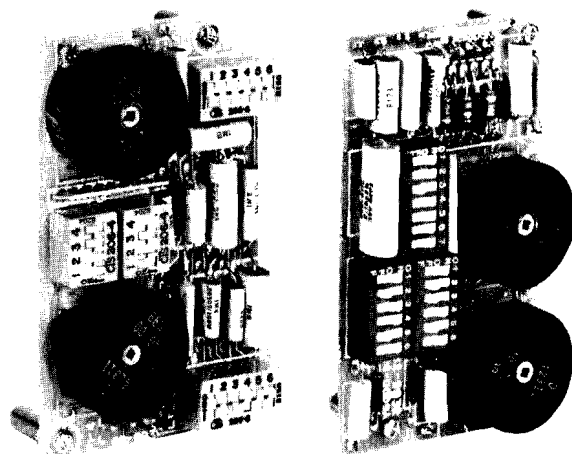

figure 1. 9930 and 9932 Precision Balance Network subassemblies
1.01 Tellabs' 9930 and 9932 Precision Balance Network (PBN) plug-on subassemblies (figure 1) approximate the impedances of specific transmission facilities and equipment to provide precision balancing (i.e., improvement of the transhybrid loss when unacceptably low) of terminating sets connected to these facilities and equipment. Improving a term set's transhybrid loss reduces the level of cross-coupling between the hybrid's 4wire transmit and receive paths.